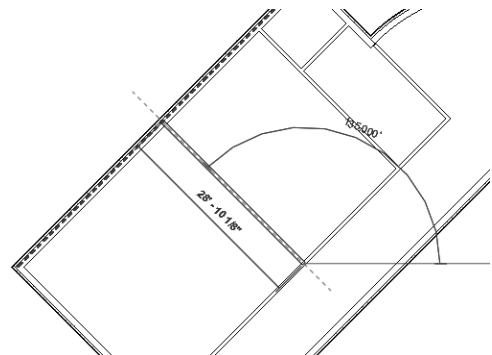

Figure 3-71 Completing the interior walls
11. Move the cursor upward left toward the exterior wall such that it subtends an angle of 135 degree with the horizontal and click when the nearest object snap appears on the exterior wall, as shown in Figure 3-71. Click to specify the endpoint and the wall is created. This completes the interior wall layout for the left portion of the Club project.